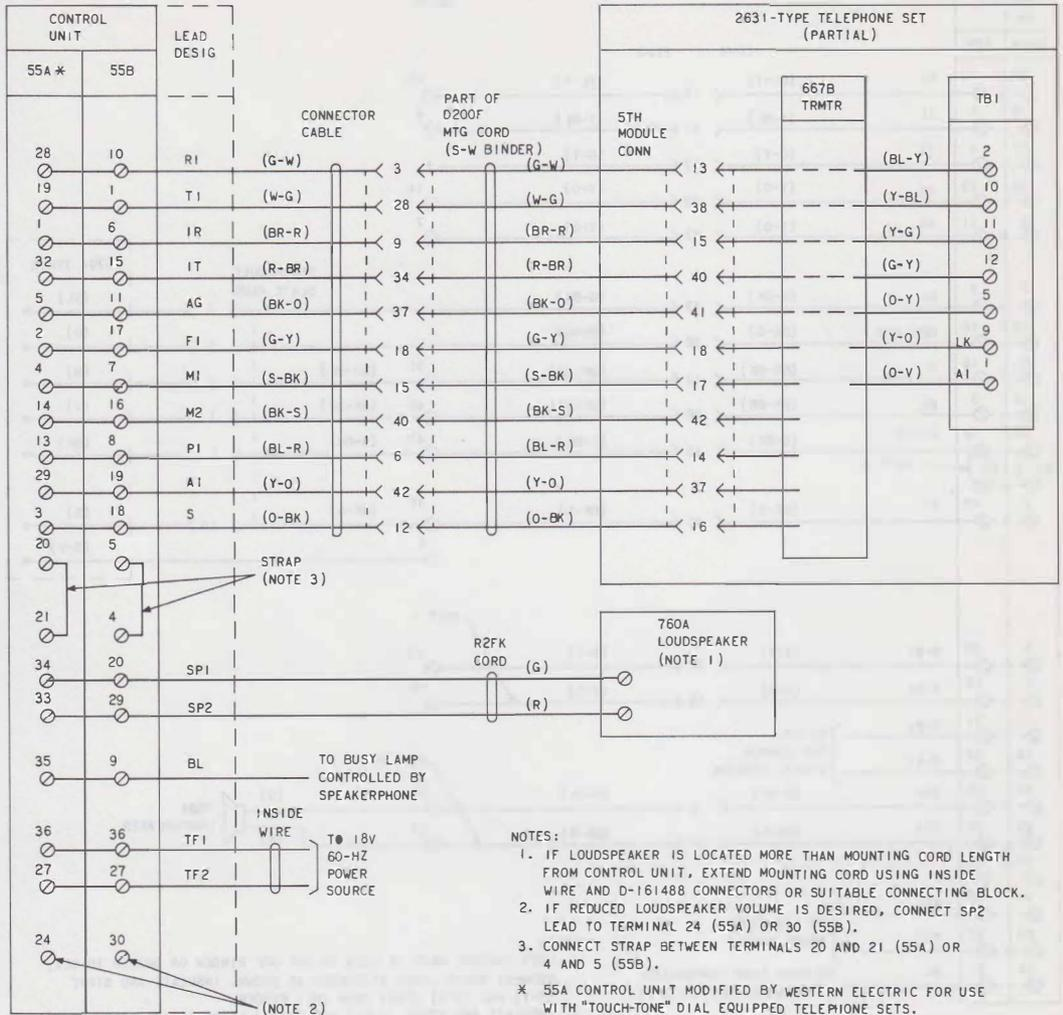

Fig. 1—2631-Type Telephone Set, Connections for 3-Type Speakerphone
- Remove Tables A and B; information is included in Fig. 1.
- (c) Connect spade-tipped leads of transmitter as shown in Fig. 1.